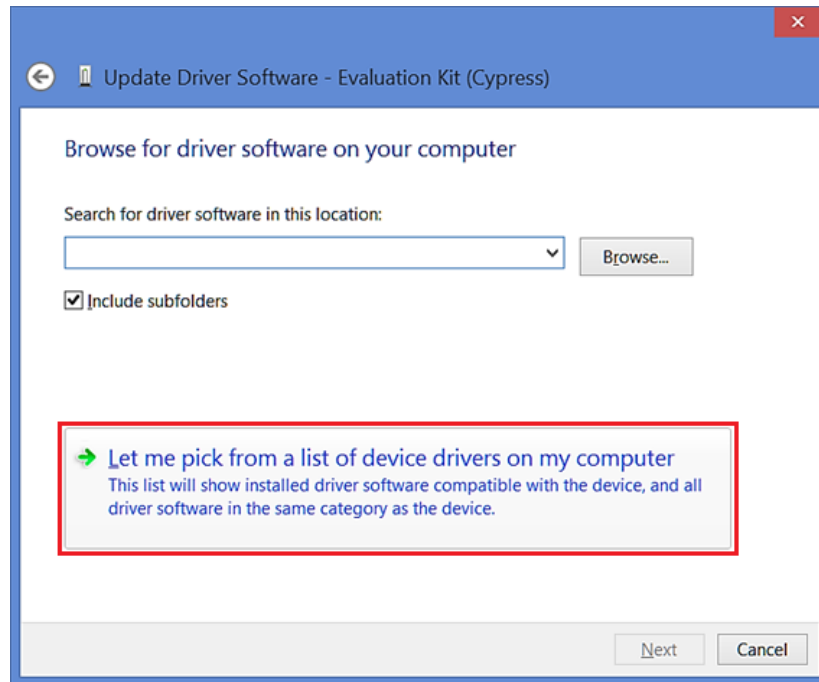

Figure 16. Update Driver Software - 2
5. Select "Let me pick from a list of device drivers on my computer": (Figure 16)